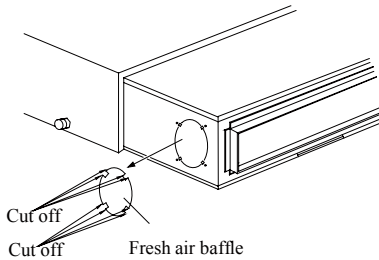

Fig.9
A. When the fresh air pipe is needed to be connected, cut the fresh air baffle as shown in fig.9. Plug up the gap of the fresh air baffle by sponge if the fresh air pipe is not be used.